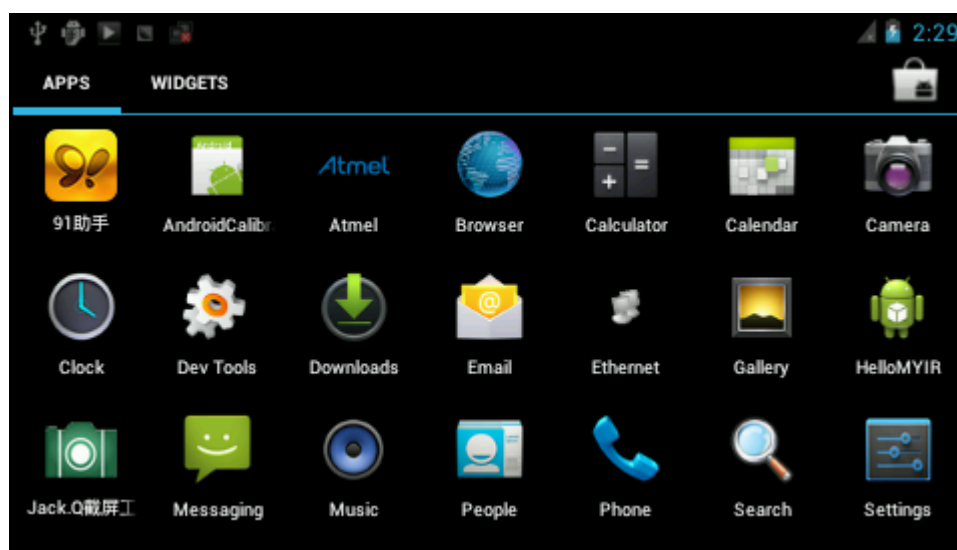

Figure 4-15
(1) Select "Gallery" icon. Refer to figure 4-15: